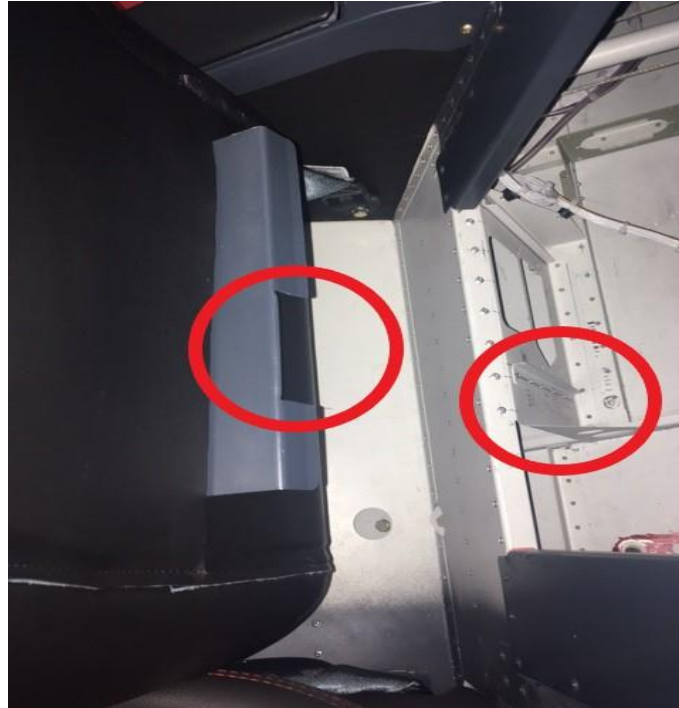

Fig. 5: Autopilot console and necessary cut out in seat lower locker (attachment)
- 9) If there is an autopilot servo bracket in the aircraft, it is necessary to file it in the entire width of the lower reinforcement (see Fig. 5 **Chyba! Nenalezen zdroj odkazů.**).